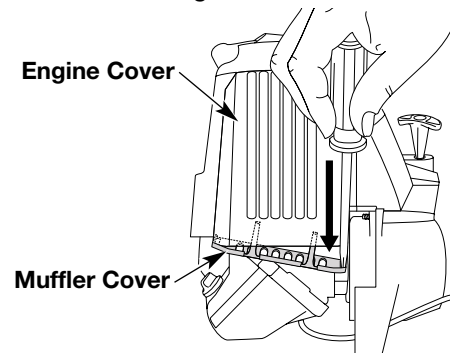

Fig. 49
1. Remove the muffler cover by pressing down on the corner with a flat blade screwdriver (Fig. 49). Slide the notches on the sides of the muffler cover over the tabs on the engine cover and remove
13. Replace the muffler cover. Slip the long tabs on the muffler cover into the engine cover. Slide the notches on the side of the muffler cover over the tabs on the engine cover and snap into place (Fig. 49).